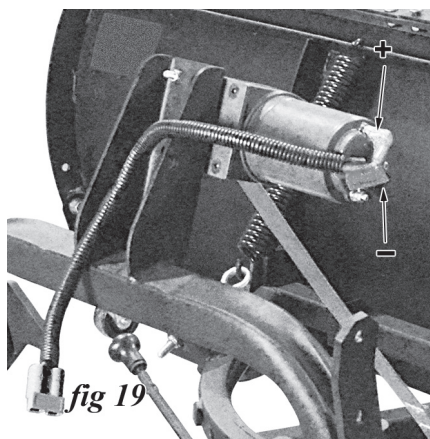

fig.18
1. Connect the winch leads, tagged "To Motor", to the contacts on the winch motor as shown (fig 18). Be sure the rubber caps cover the connections well to prevent water entry (fig 19). The red lead should be connected to the positive (+ upper) terminal on the winch, and the black lead connected to the negative (- lower) winch terminal.